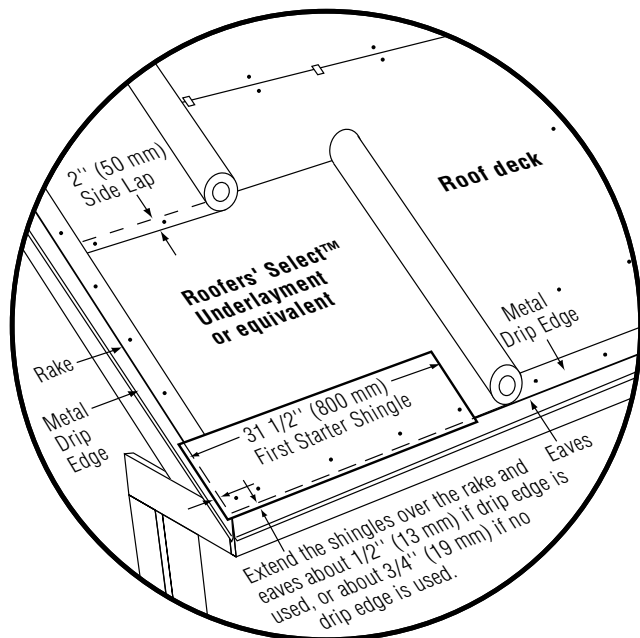

Figure 16-8: Standard slope underlayment and starter drip edge details.
- ◆ For all three shingle styles, cut  $4\frac{1}{2}$ " off the length of the left side of the first starter strip and apply at the lower left corner of the roof. This  $31\frac{1}{2}$ " starter strip should overhang the rakes and eaves  $\frac{1}{2}$ " when drip edge is used or  $\frac{3}{4}$ " when no drip edge is used. Continue with full 36" lengths of starter strips all along the eaves (Figure 16-8).